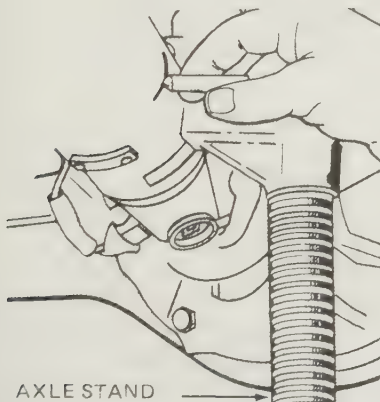

Fig. 7.3. Marking the driveshaft (Sec. 6)
- 5 An assistant should now place a crayon or piece of chalk so that it *just* contacts the rear end of the driveshaft. Obviously great care must be taken to avoid injury (Fig. 7.3).